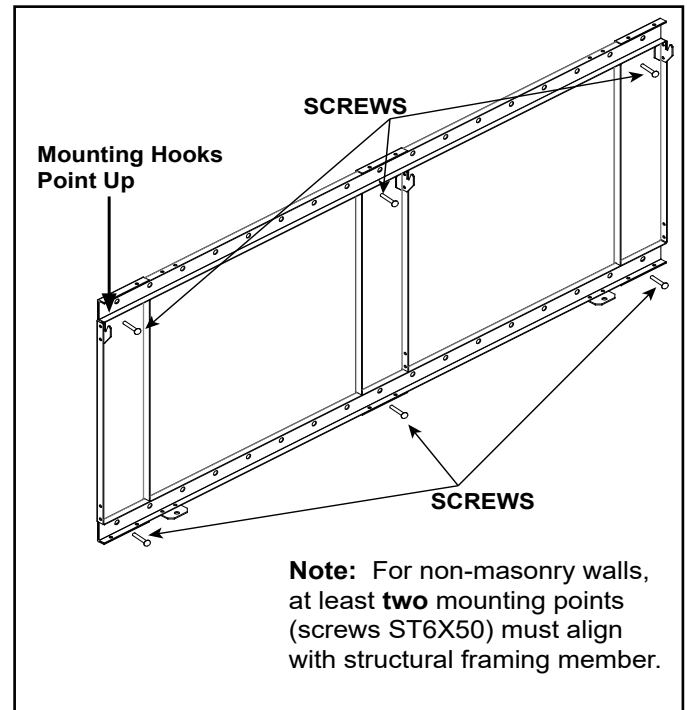

Figure 4.8 Bracket Attachment
- With mounting hooks pointed up, attach the bracket to the masonry anchors with ST6X50 screws. See Figure 4.8.